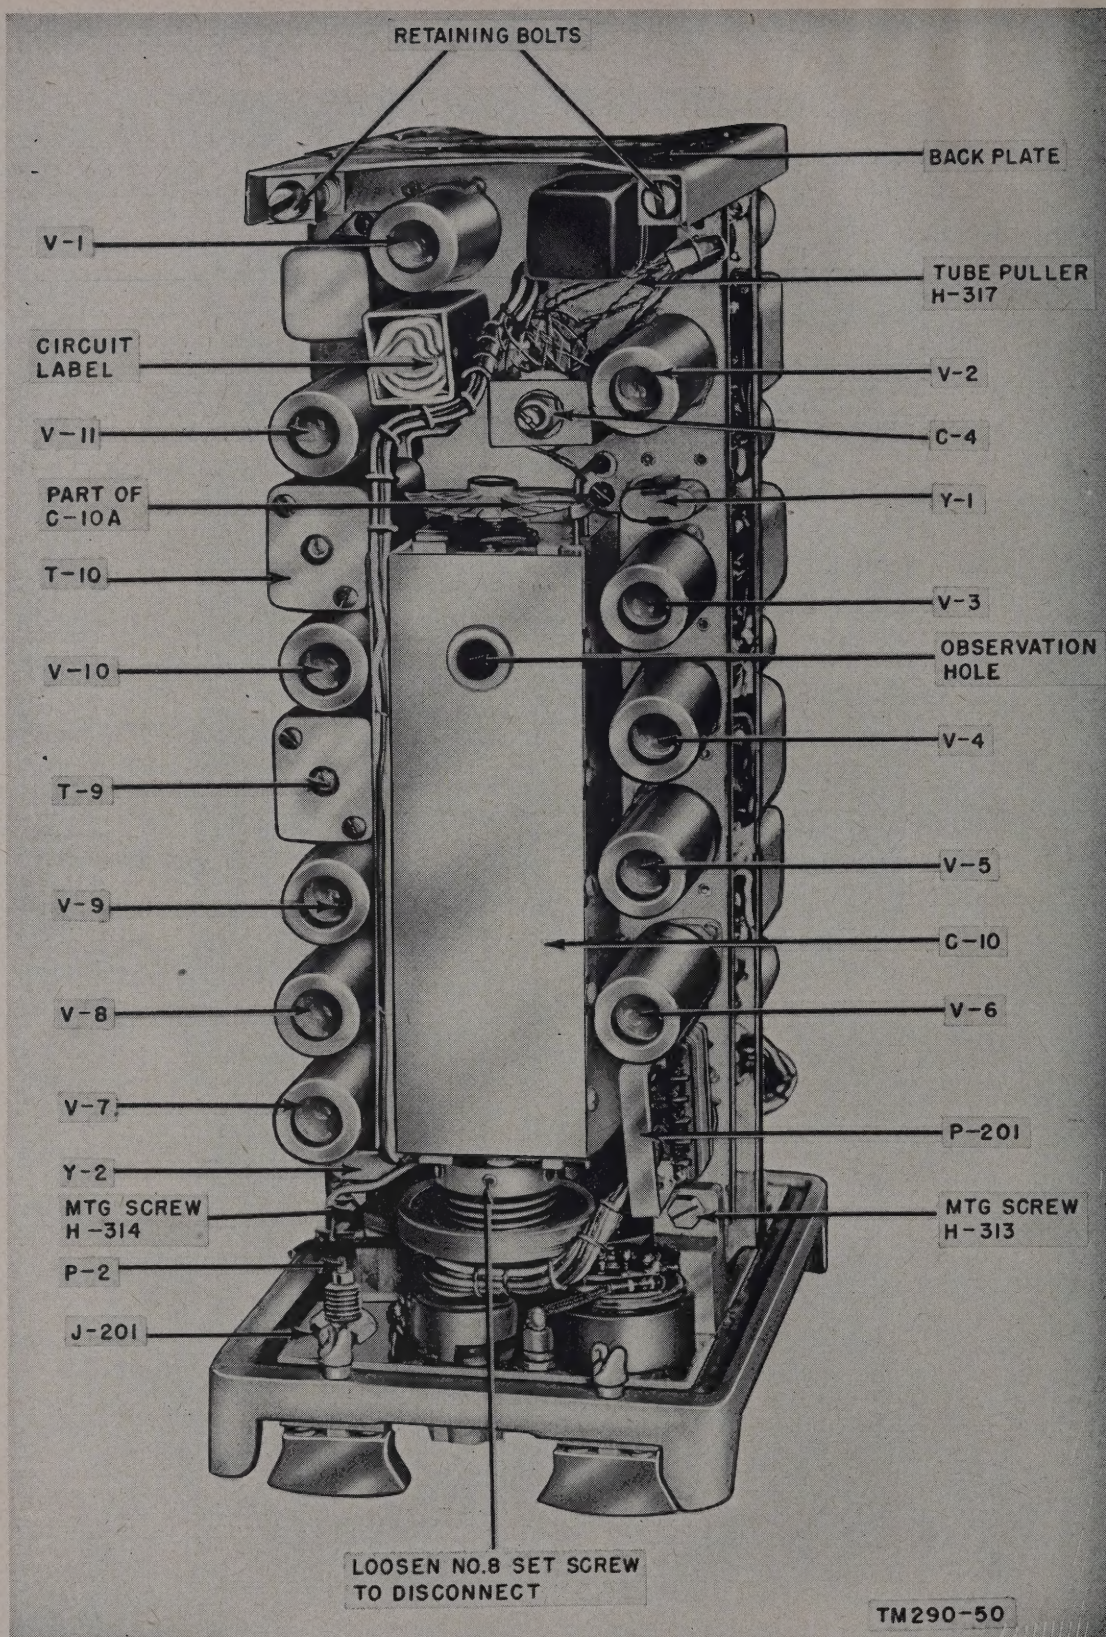

Figure 77. Receiver-Transmitter RT-70/GRC, view of r-f chassis.
The only replaceable parts in Set 2 are the dial lamp and the tubes. The tubes are located on the vertical r-f and i-f chassis (figs. 77 and 78). The dial lamp is set in the front panel.
a. To gain access to the tubes, remove the panel-chassis assembly from the case (par. 153). To remove any tube, first remove the tube shield and then use a tube puller. Do not rock or jiggle the tube. It is damaged easily by careless handling. Tube locations are shown on figures 77 and 78.